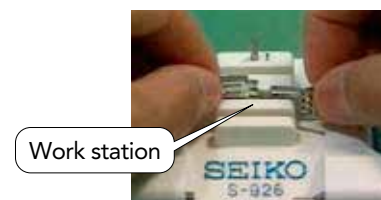

Fig.5
1) Align the links using the work station of S-926 (Fig.5)